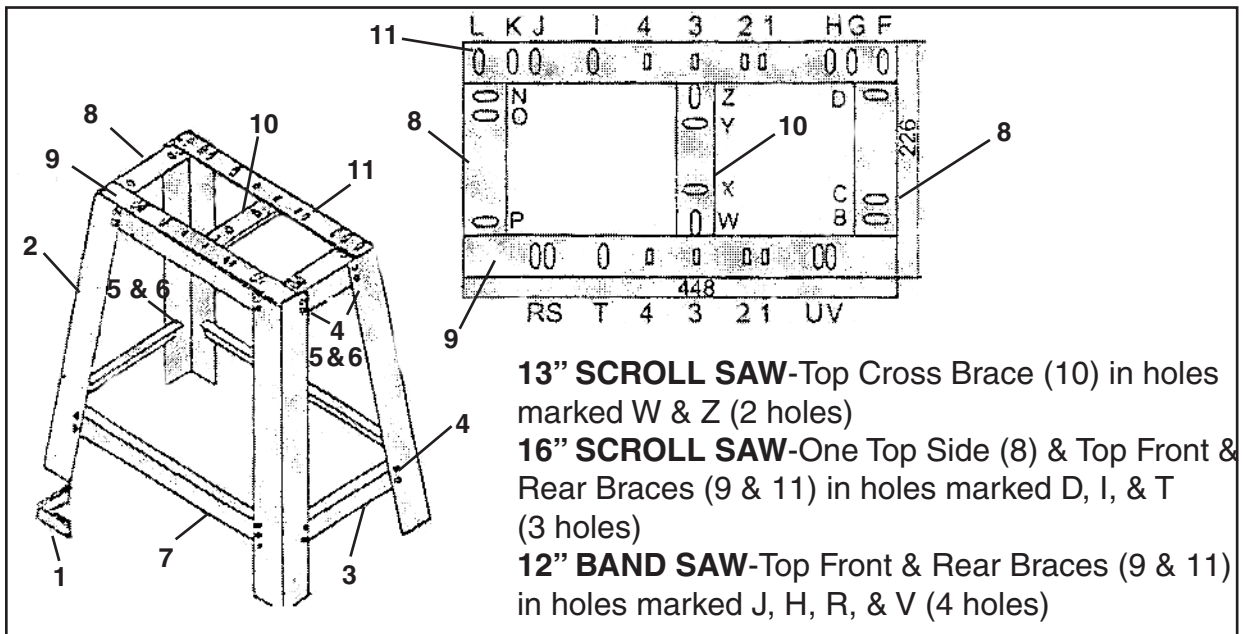

Figure 1
1. Install one Rubber Sleeve (1) onto each Leg (2). **See Figure 1.**
2. Assemble front and rear sections, as shown in **Figure 1** below. Insert the Carriage Bolts (4) through the Legs (2), through the Braces and then into the retractable slots. Fasten each piece with a Washer (5) and Hex Nut (6). Tighten the Nut.
3. Assemble the two Top Sides (8) to the Top Front & Rear Braces (9 & 11) **See Figure 1** below.
1. Assemble this step according to the configuration of the tool you are mounting. **See Figure 1.**
1. In some cases the Top Cross Brace (10) will change positions depending on the tool you are mounting. Assemble according to the configuration of the drawing pertaining to the tool you are using. **See Figure 1.**